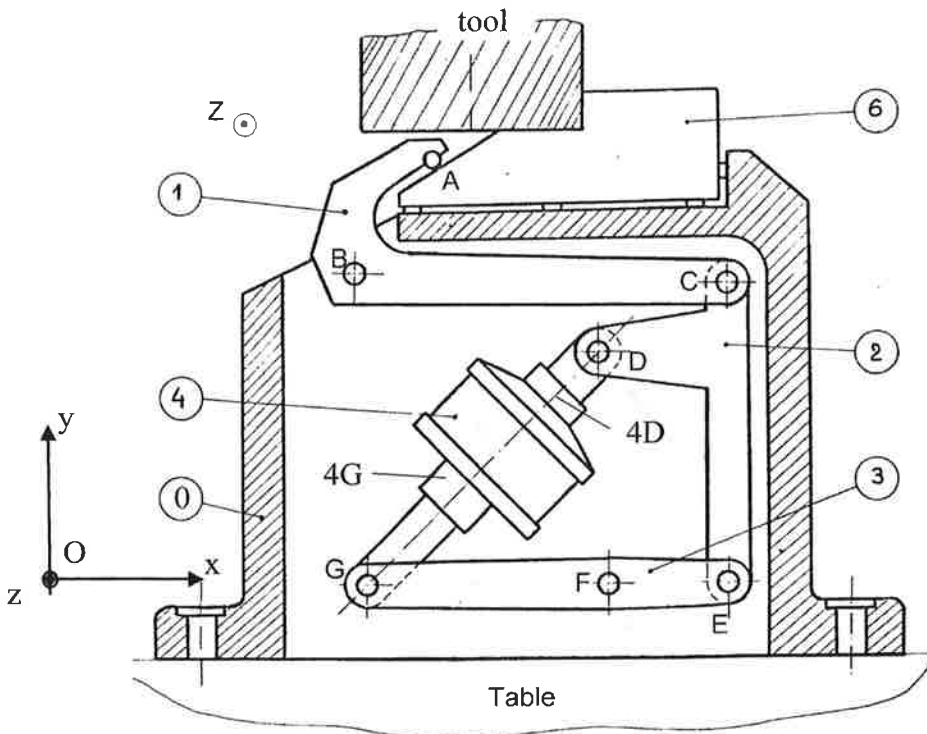

Figure 2. Clamping system
A clamping mechanism is shown in Figure 2. It comprises a ground (solid 0), three levers (1), (2), (3) and a jack (4). The objective is to block part (6) during machining.